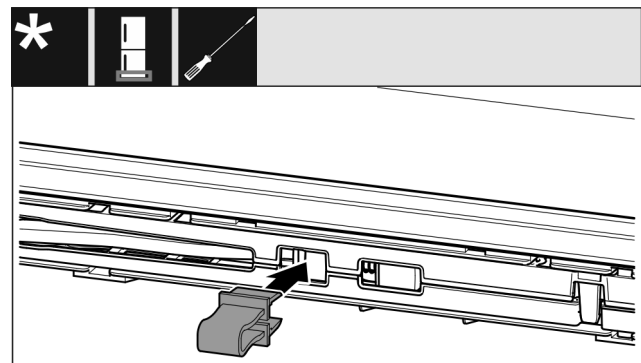

Fig. 12
- ▶ Engage the locking device in the opening Fig. 12 ().